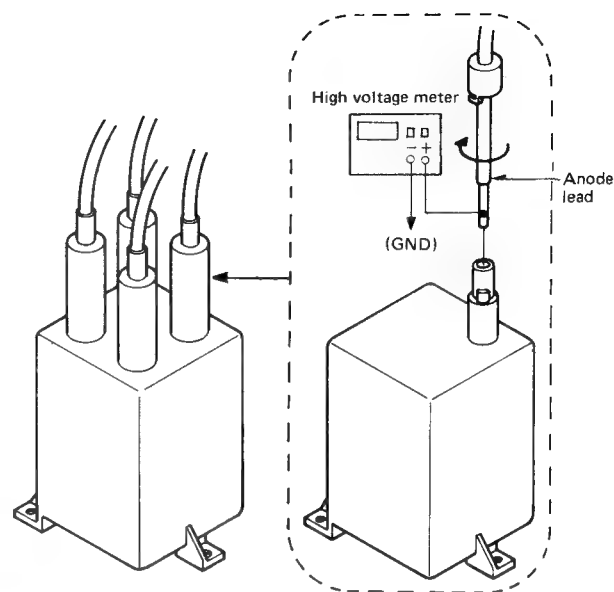

Fig. 17
- Connect the high voltage meter to anode lead of the distributor as shown in Fig. 17.